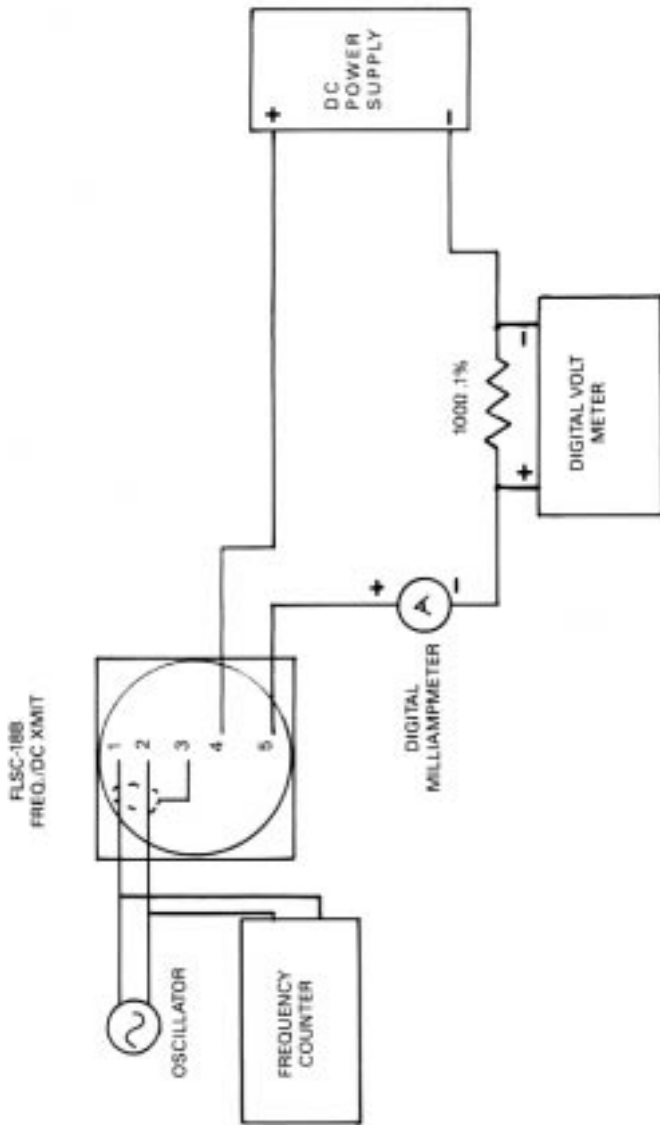

Figure 4-1. Calibration Set-up
The external oscillator is used to supply a test frequency. In this method, the external oscillator is connected to the signal input terminals as shown in Figure 4-1. The oscillator's output frequency is set to equal F (MAX) as indicated on the frequency counter.
- 2.. Connect a digital milliampmeter or digital voltmeter as shown in Figure 4-1.
5. Inject the Test Frequency equal to F MAX while adjusting SPAN for current equal to desired Full Scale (20 mA). See test setup shown in Figure 4-1.)